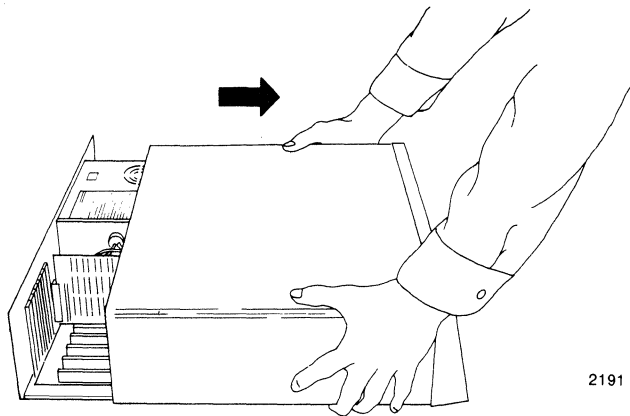
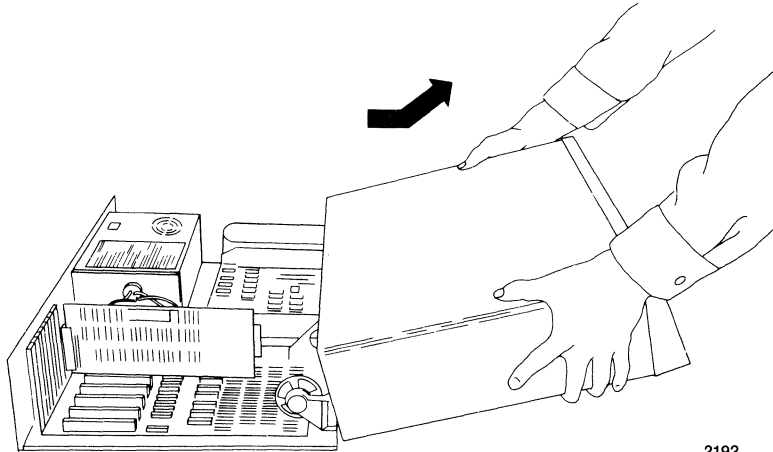

Figure C-3 Pulling the PC Cover Toward You
Figure C-4 Tilting Up the PC Cover
- b. Turn the PC around so that you are facing the front panel; grasp the cover as shown in Figure C-3. Pull the cover slowly toward you until it will go no further. Then tilt the cover up, as shown in Figure C-4, and lift it off the PC.